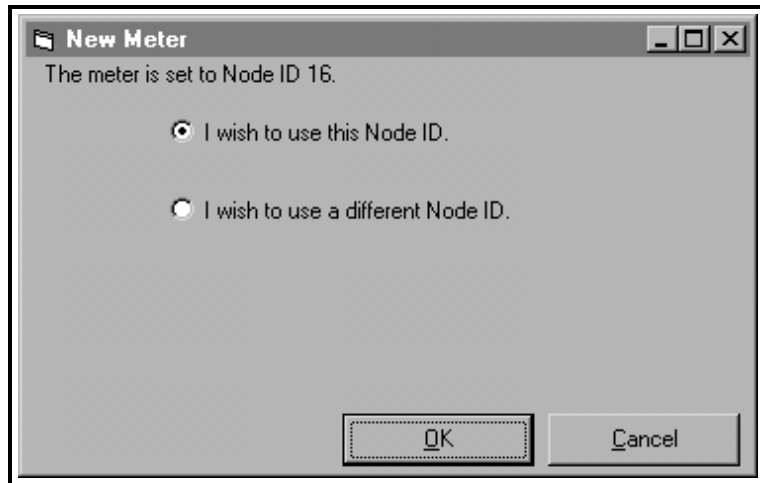

Figure 6: Node ID Confirmation
6. After responding to the previous dialog box, a dialog box showing the Node ID (16 in this example) of the meter appears (see Figure 6 below). Select the “*I wish to use this Node ID*” radio button and then click on the [OK] option button.